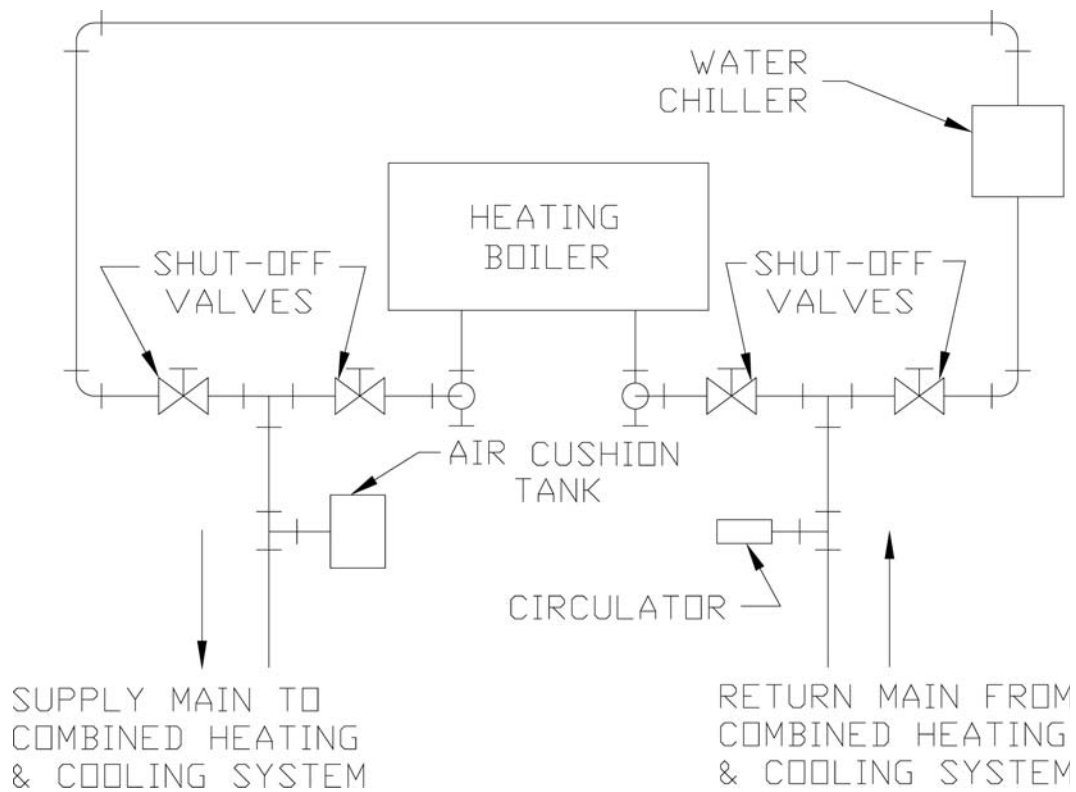

Figure 12: Recommended Piping for Combination Heating and Cooling (Refrigeration) System
1. If this boiler is used in connection with refrigeration systems, the boiler must be installed so that the chilled medium is piped in parallel with the heating boiler using appropriate valves to prevent the chilled medium from entering the boiler. See Figure 12. Also, consult I=B=R Installation and Piping Guides.